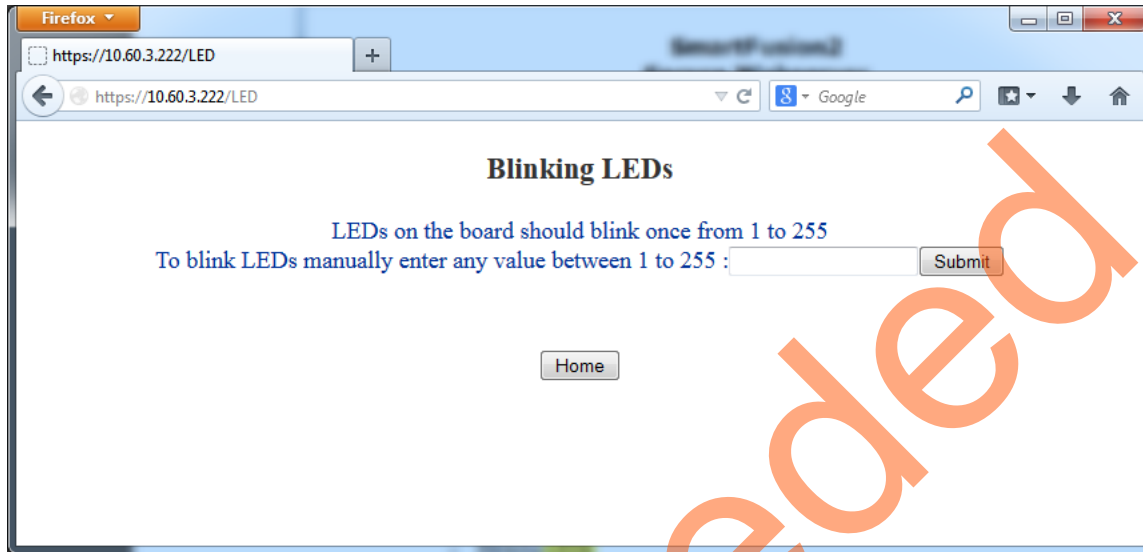

Figure 23 • Blinking LEDs Page
1. Click **Blinking LED's** on the main menu. You can observe a running LED pattern on the SmartFusion2 board. The webpage gives an option to enter the values to blink the LEDs manually as shown in Figure 23.